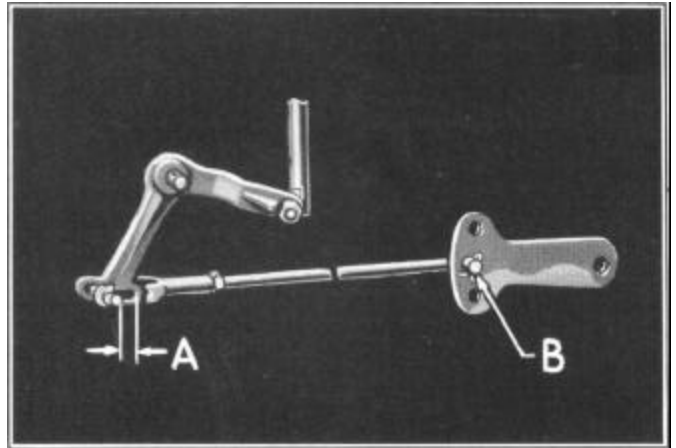

Figure 6
Adjust the throttle rod at point (B) (Figure 6) as follows:
Adjust the clevis at (A) (Figure 6) so that all lost motion is taken up; that is, any additional pedal travel will increase the engine speed. Remove the wedge.